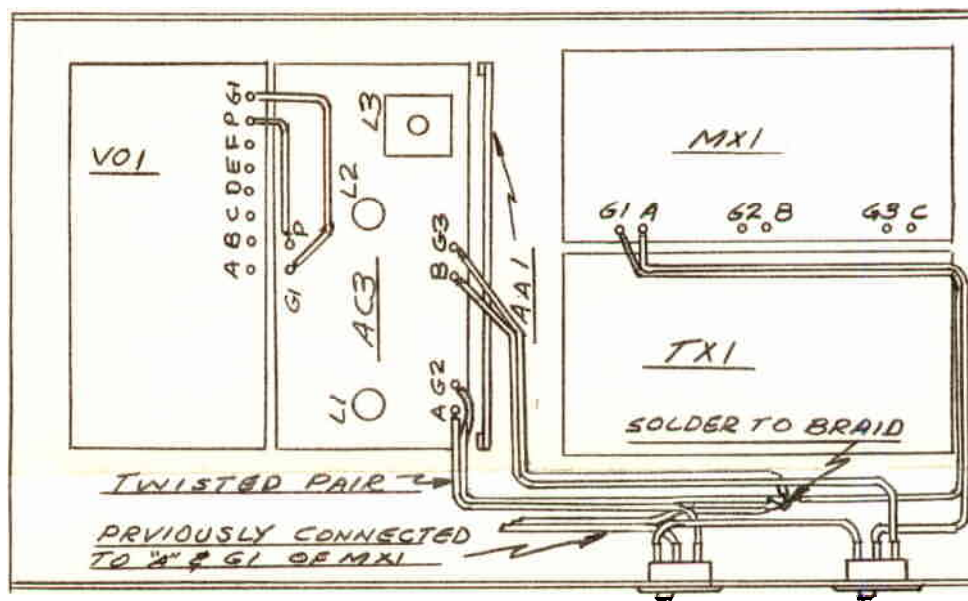

FIG. 1
- ( ) Mount the AC3 as shown in figure 1 using the hardware provided.